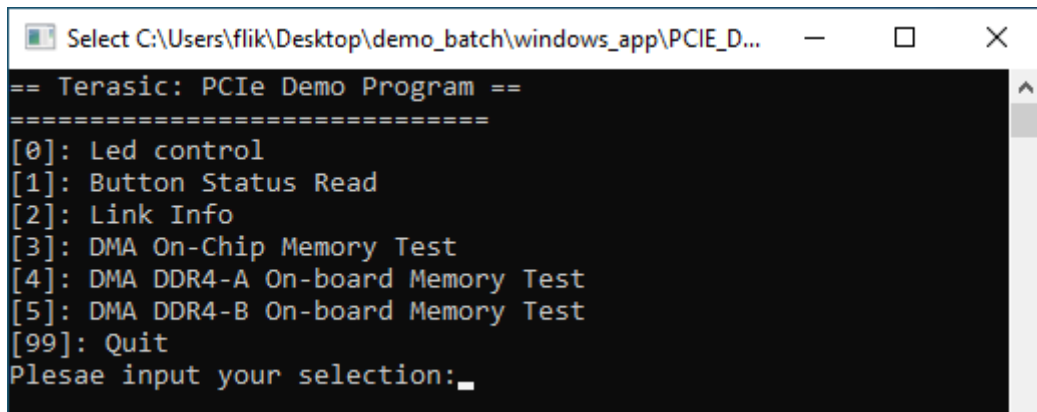

Figure 5-10 Screenshot of Program Menu
7. Go to windows\_app folder, execute PCIE\_DDR4.exe. A menu will appear as shown in **Figure 5-10**.